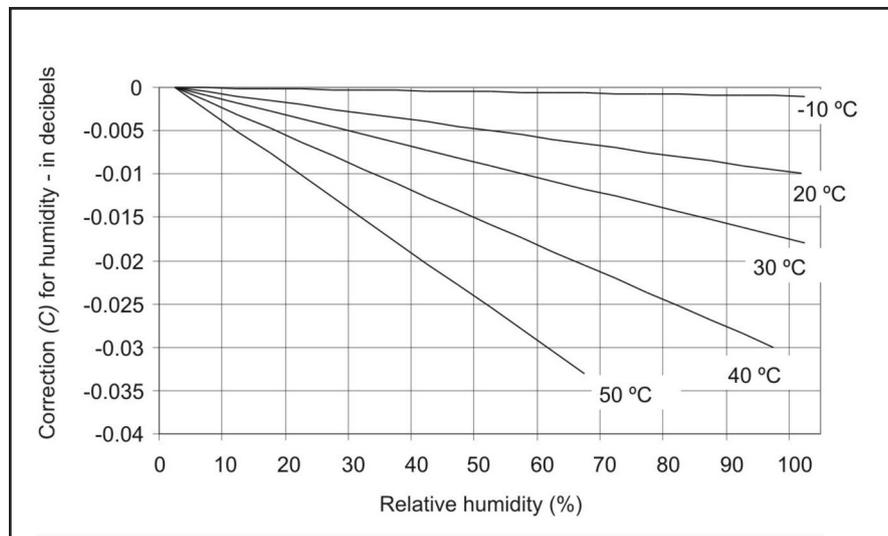

Fig. A.2 Corrections for temperature humidity
The curves in Fig. A.2 show corrections (C) which account for the effects of both temperature and humidity when the ambient pressure equals the reference pressure P_r (101.3 kPa).